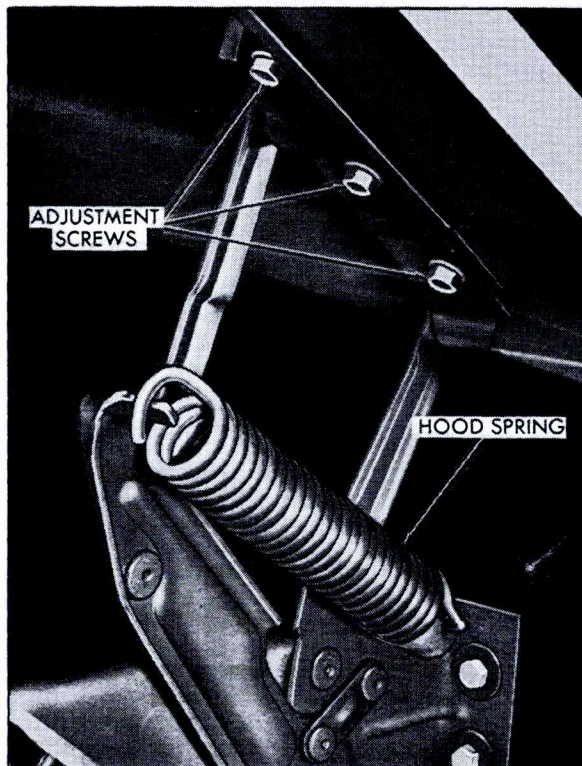
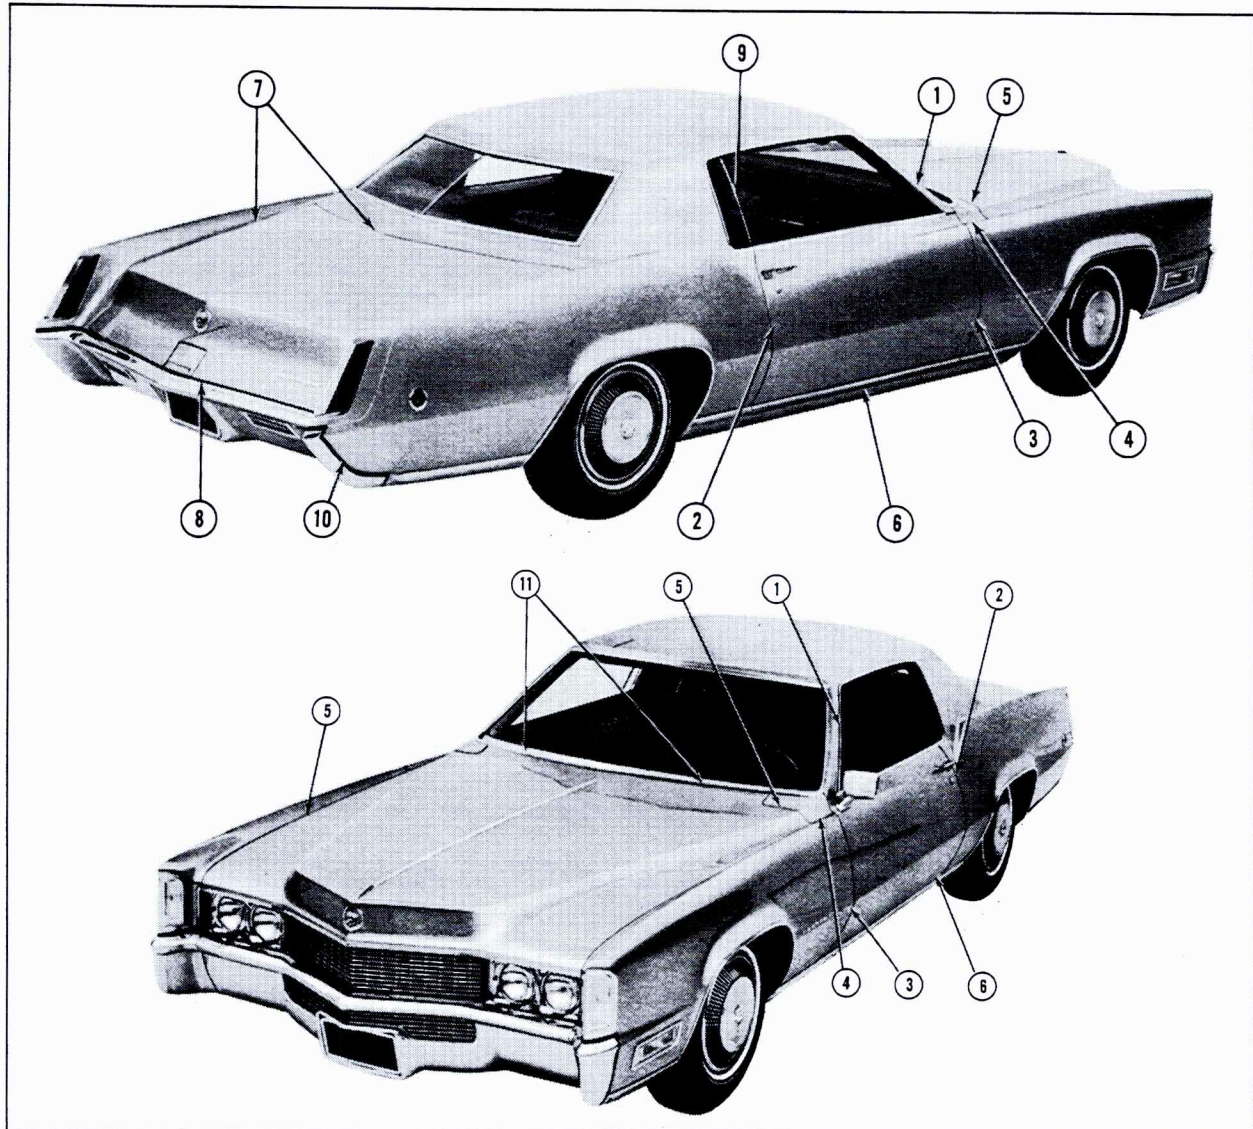

Fig. 11-8 Hood Hinge - 693
Fig. 11-10 Sheet Metal Tolerances - 693
a. Removal (Fig. 11-8)
b. Installation (Fig. 11-8)
1. Loosen hood attaching screws, three at each hood hinge, Fig. 11-8. Elongated holes in hinge provide fore, aft, and side adjustment of hood. Position hood so that tolerances shown in Fig. 11-10 are provided.
NOTE: In the following steps, install proper number of shims necessary to obtain tolerances shown referring to Fig. 11-10.
15. Adjusting Sheet Metal Tolerances Eldorado 693 Body Clearances, Fig. 11-10
The adjustment procedures for clearances #1 through #11 (except #3, #4, #5 and #11), in Fig. 11-10 will be found in the 1969 Fisher Body Service Manual.
These clearances should be adjusted to the specifications shown in Fig. 11-10.